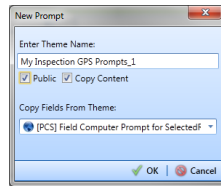

Figure 8-41. New Prompt
- 6 Type a name for the theme in the field **Enter Theme Name** (Figure 8-41).